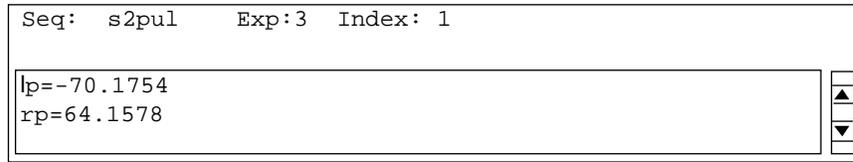

Figure 10. Status Window and Input Window
On most systems, the status window occupies the top two lines of the VNMR display as well as a three-line scrollable window that appears below the top two lines. **Figure 10** shows how a typical status window might look.
- The first line is a status line that informs the operator about the system action in progress. Near the center of this line is the name of the pulse sequence requested by the operator (“Seq: s2pul” in Figure 10). The sequence name is stored in the `pslabel1` parameter. The status line continues with an indication of the current experiment number (“Exp: 3” in Figure 10). This number refers to the experiment currently displayed on the screen, which is the experiment the operator can currently control. How the data system defines an experiment is discussed below. Short messages frequently appear on the right end of status line to identify the particular program that is executing, such as “FT” when a Fourier transform is in progress or “CONT” when a contour plot is being drawn.